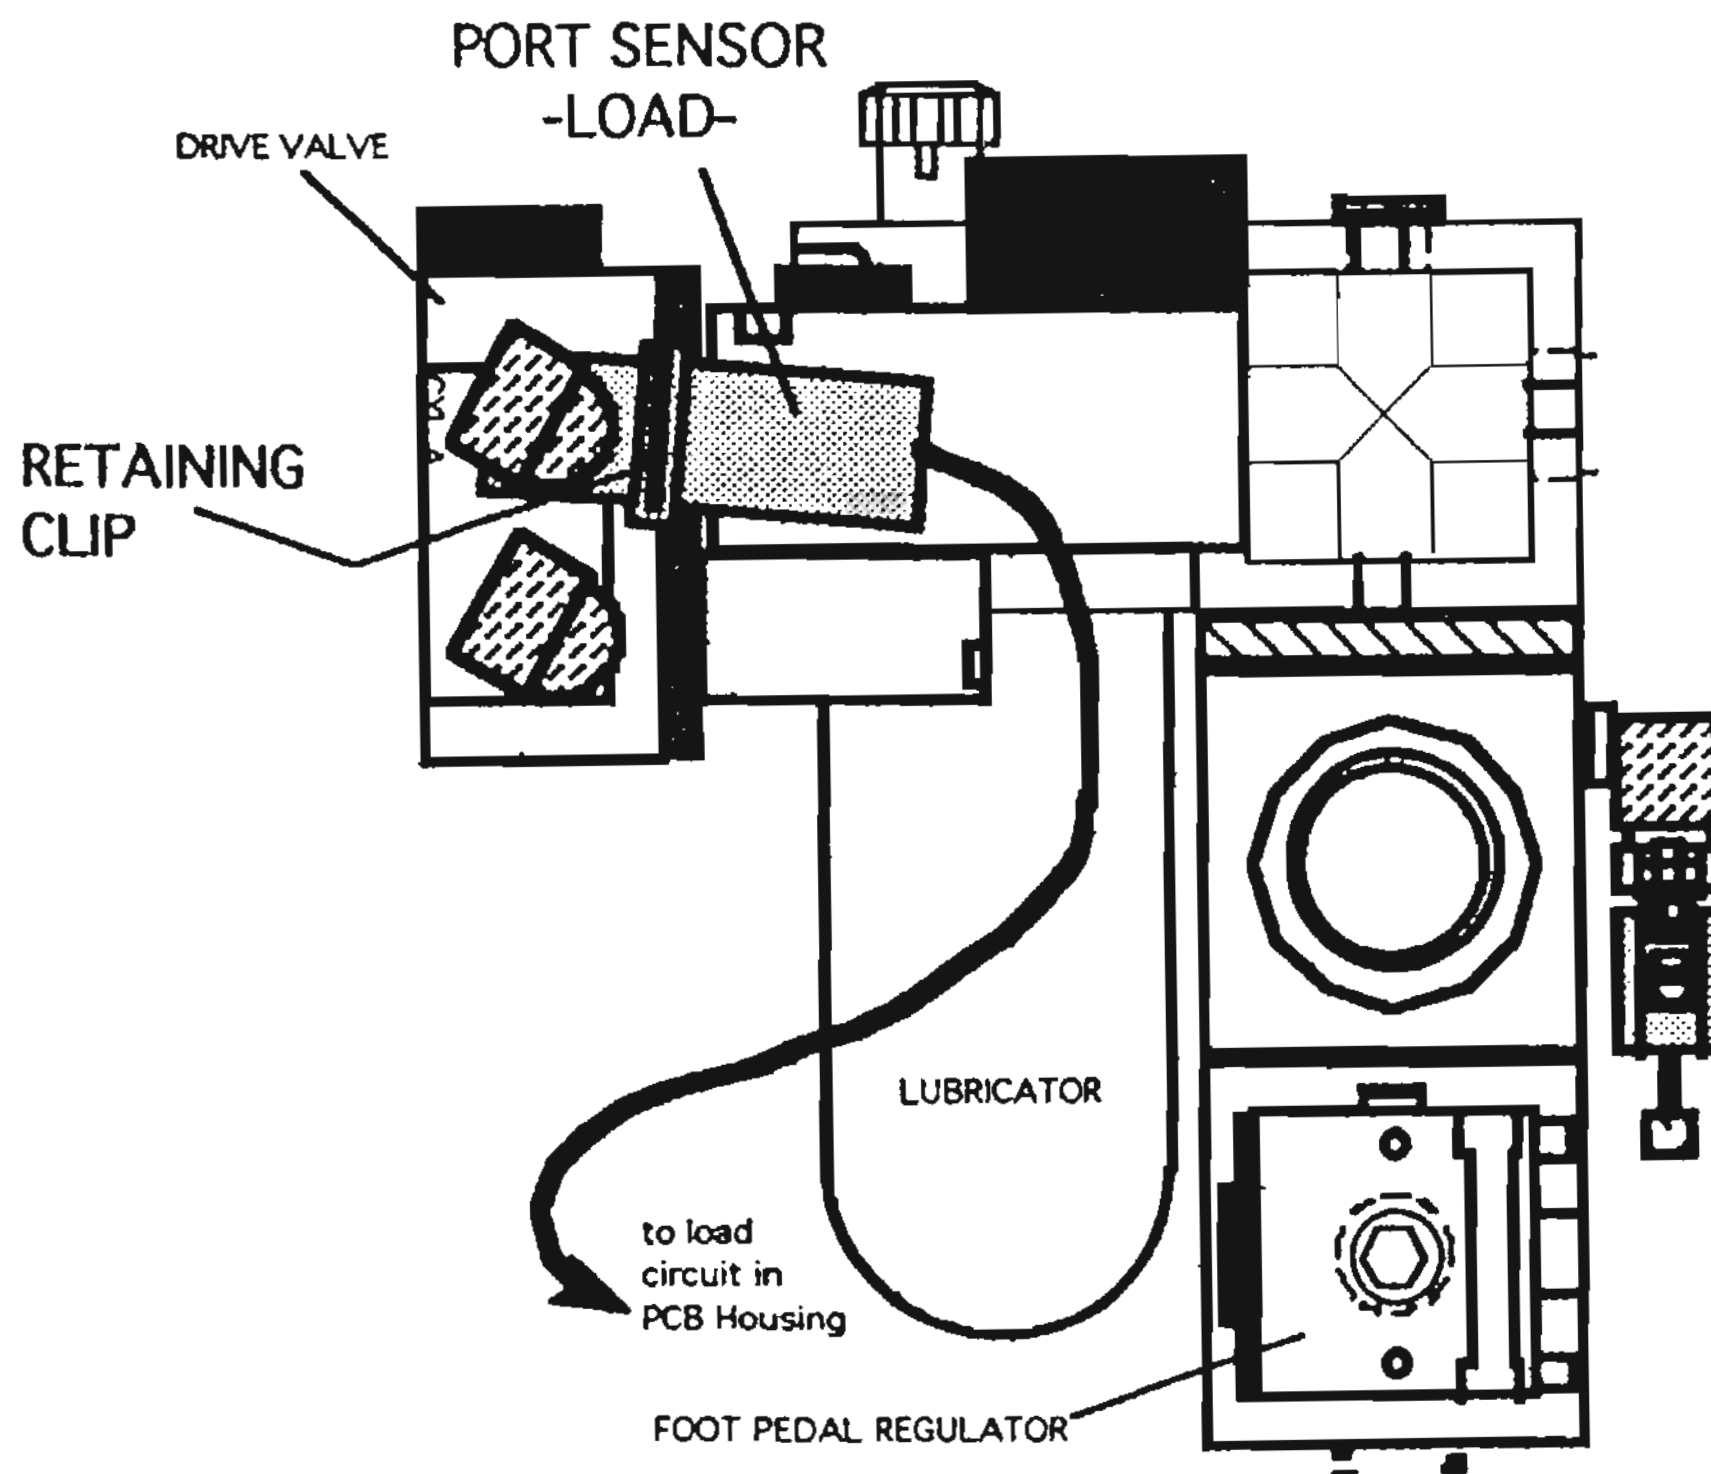

Fig 5-9
1. Disconnect ALL electricity, air and allow full bleed down. See **Fig 5-9**.